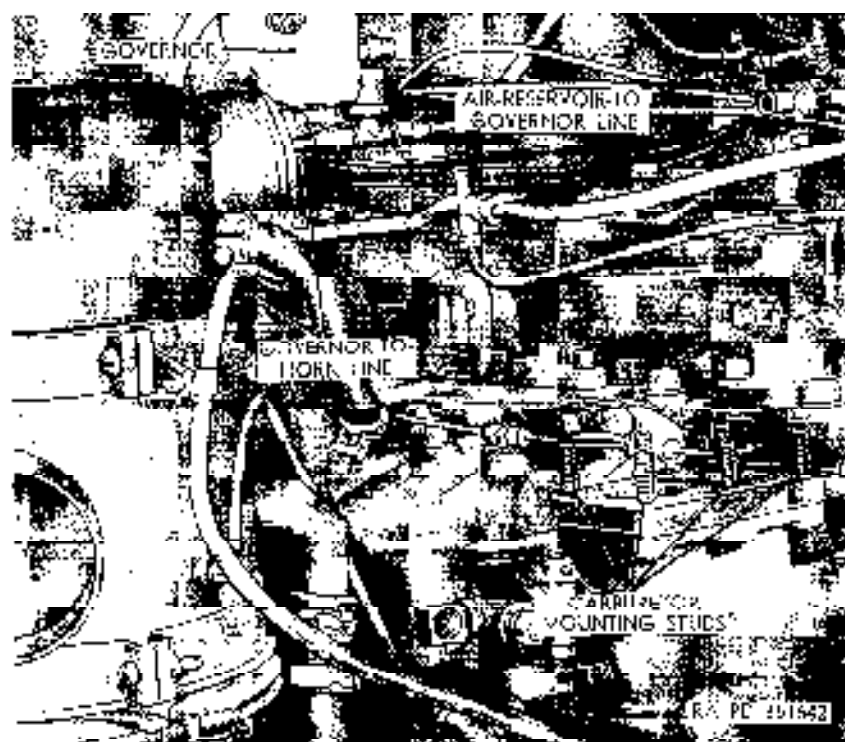

Figure 159. Upper right rear section of engine with carburetor removed.
- (1) Install new carburetor-to-manifold gasket or carburetor mounting studs (fig. 159) on top of intake manifold center section.
- (3) Insert choke control wire in hole in end of choke lever swirl but do not tighten swirl screw. Position choke control (fig. 159) under choke lever-bracket clamp and tighten clamp screw.